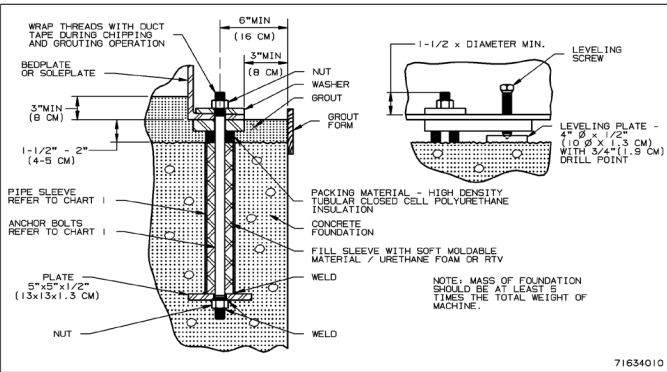

Figure 3 - Typical Anchor Bolt Detail
**Anchor Bolts and Plates** - Place anchor bolts within the foundation forms before the concrete is poured. (See Table 2 for the recommended bolt sizes and Figure 3 for proper bolt installation.) The bolts must be located as accurately as possible based on the dimensions provided on the certified installation drawing. To obtain a bolt location tolerance of 1/8-inch (3mm), use drilled templates firmly secured to the foundation forms.